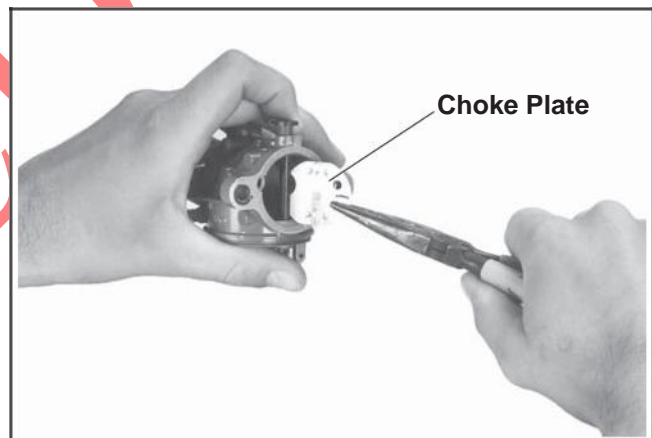

Figure 5-9. Removing Choke Plate.
2. Some carburetors have the choke plate inserted into a slot in the choke shaft. Grasp the choke plate with a pliers and pull it out of the slot. See Figure 5-9. Other carburetors will have the choke plate fastened to the shaft with screws. Carefully remove the screws and separate the plate from the shaft. Use a fine-toothed file to remove any burrs from the shaft.